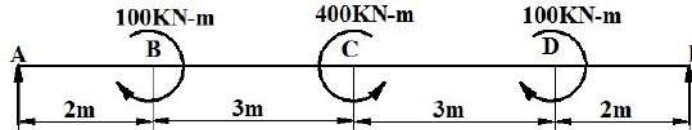

Figure 29
19. For the beam shown in **Figure 29**. Draw shear force and bending moment diagram